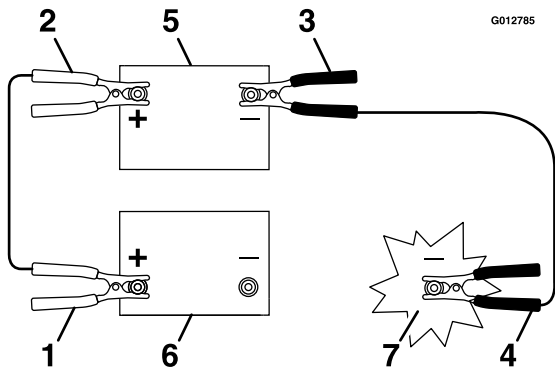

Figure 12
3. Connect the positive (+) cable to the positive (+) terminal of the discharged battery that is wired to the starter or solenoid as shown in Figure 12.